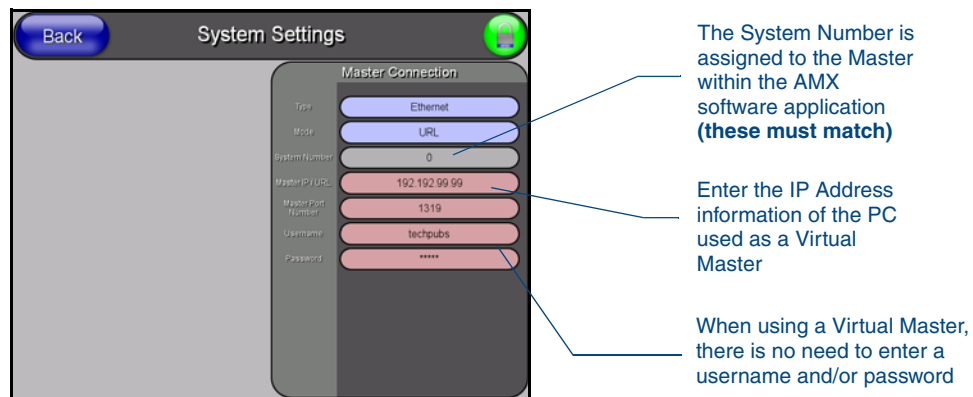

FIG. 41 Sample System Settings page (for Virtual Master communication)
14. Select **Protected Setup > System Settings** (located on the lower-left) to open the System Settings page (FIG. 41).